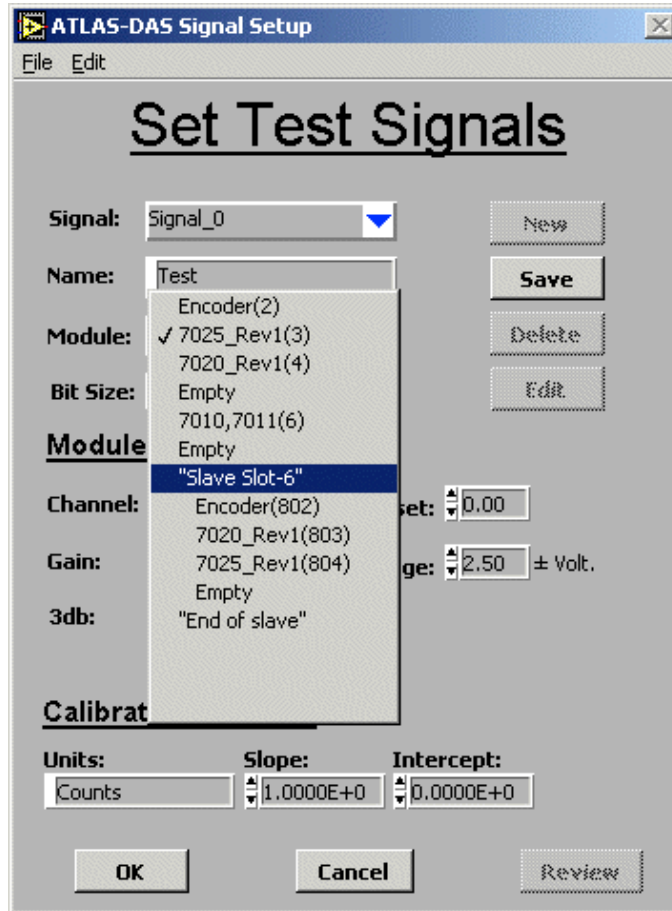

Figure 3-14. Preselected Module List.
2. Select the appropriate module (see Figure 3-14).
Module	This is a list of the modules selected in the Configure DAS Channels window set previously. Slave modules are indented and clearly marked so you can discern the difference (see Figure 3-14).